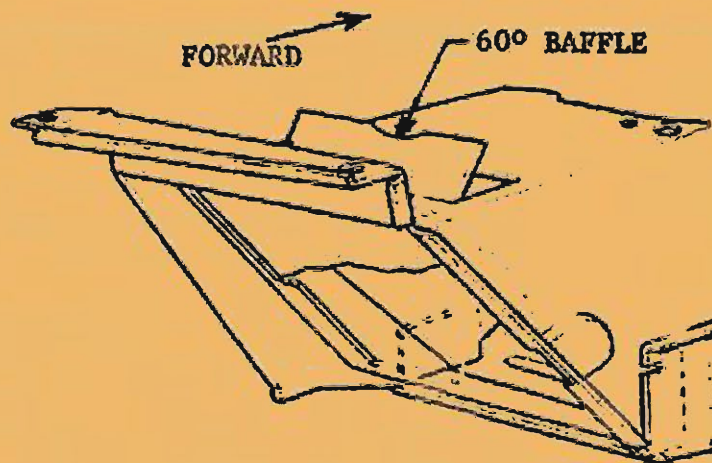

FIGURE 2 - COOLING DUCT ASSEMBLY R.H.
- B. On engines equipped with 60° baffles over the slots (Figure 2), bend the baffles to a closed position. This will seal off the slots sufficiently so that a cover is not required.